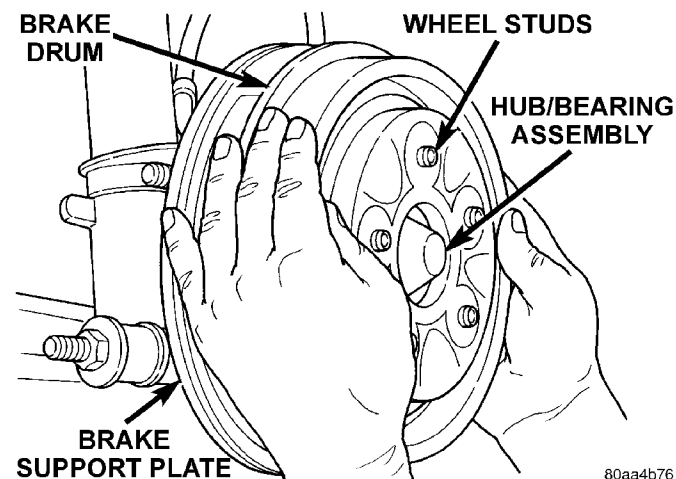
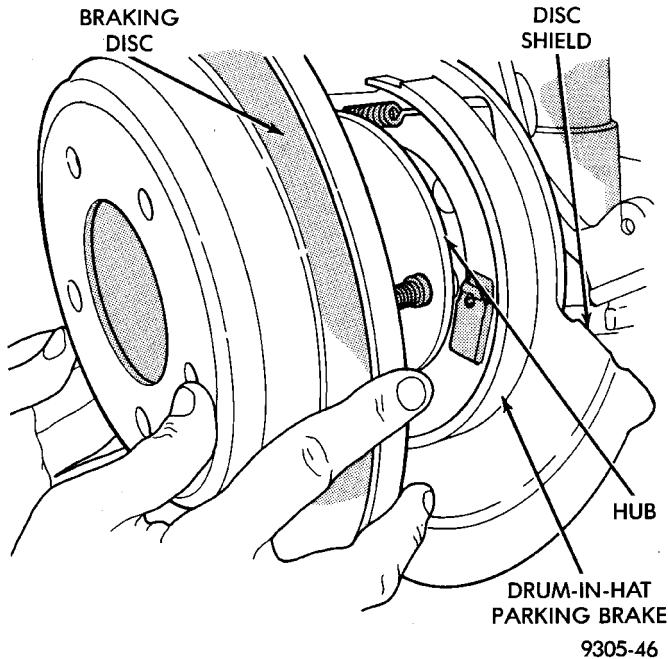

Fig. 96 Brake Drum Removal
Fig. 97 Rear Rotor Removal
(1) Raise vehicle on jackstands or centered on a frame contact type hoist. See Hoisting in the Lubrication and Maintenance section of this manual for the required lifting procedure to be used for this vehicle.
(2) Remove rear wheel and tire assembly.
(3) On vehicles equipped with rear drum brakes, remove brake drum (Fig. 96) from rear hub/bearing assembly. On vehicles equipped with rear disc brakes, remove disc brake caliper from disc brake adapter, and then remove rotor (Fig. 97) from hub/bearing assembly.